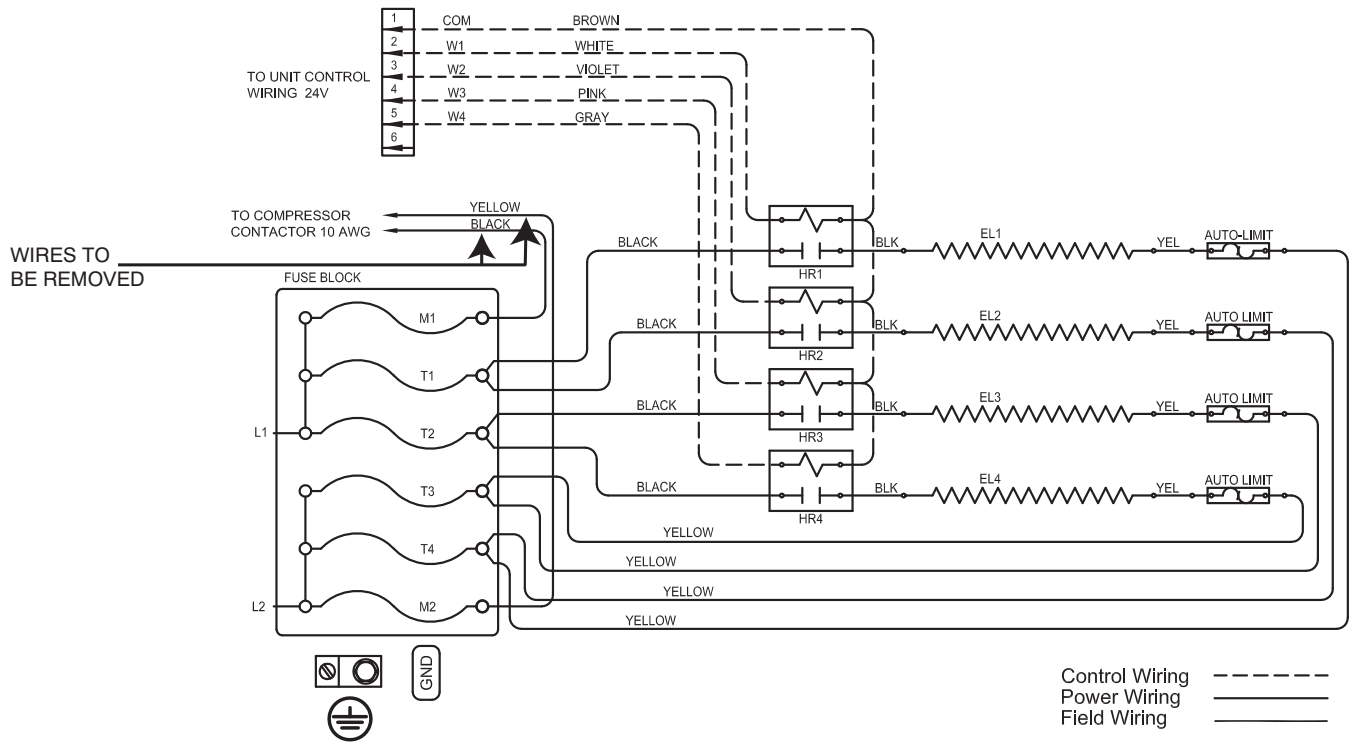

Fig. 4 - Wiring Diagram Example for Fused Heater
5. Remove power line connection from heater to unit contactor and compressor (see Fig. 4 and Fig. 5). These are the stripped end wires black and yellow, with opened ends.